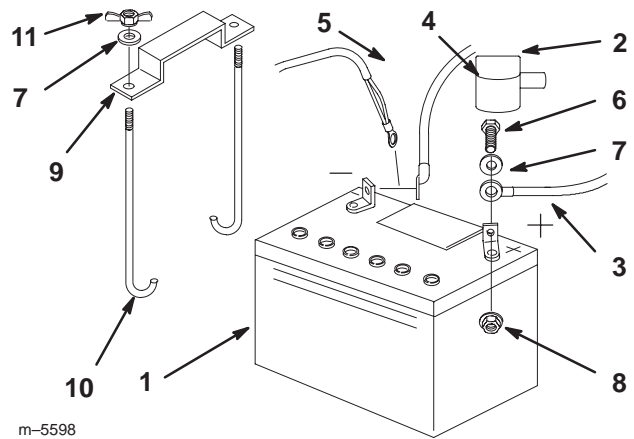

Figure 64
- Position battery in tray with terminal posts toward the engine (Fig. 64).
- Secure the cables with 2 bolts (1/4 x 3/4 inch), 2 washers (1/4 inch), and 2 locknuts (1/4 inch) (Fig. 64).
- Secure the battery with J-bolts, hold down clamp and 2 washers (1/4 inch), and 2 wing nuts (1/4 inch) (Fig. 64).
4. First disconnect the negative battery cable and ground wire from the negative (-) battery terminal (Fig. 64).
5. Slide the red terminal boot off the positive (red) battery terminal. Then remove the positive (red) battery cable (Fig. 64).
6. Remove both wing nuts (1/4 inch) securing the battery clamp (Fig. 64).